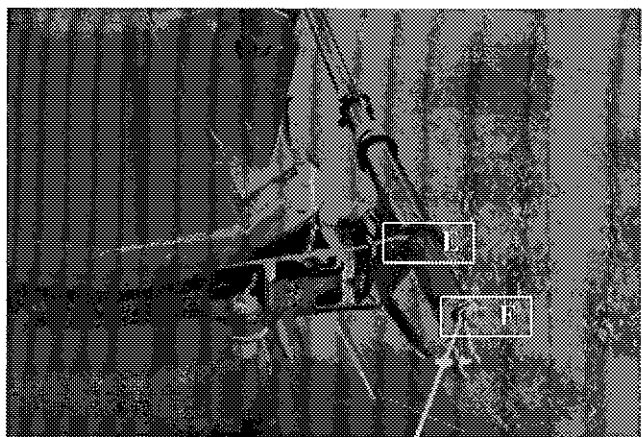

Figure 22
- 5) **Figure 22:** Insert the other end of the cable into the spindle opening (E) and push it all the way through the end (F). Secure both cables with the same cable clamp provided (F).